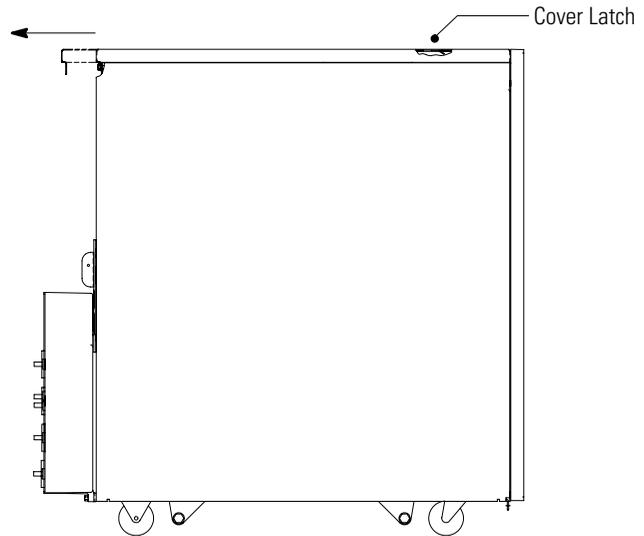

Figure 2. Removing the Top Cover
4. Remove the UPS top cover by removing the two screws on the top rear of the unit. Pull the top cover toward the rear of the unit to release the cover latch and lift the cover off (see Figure 2).